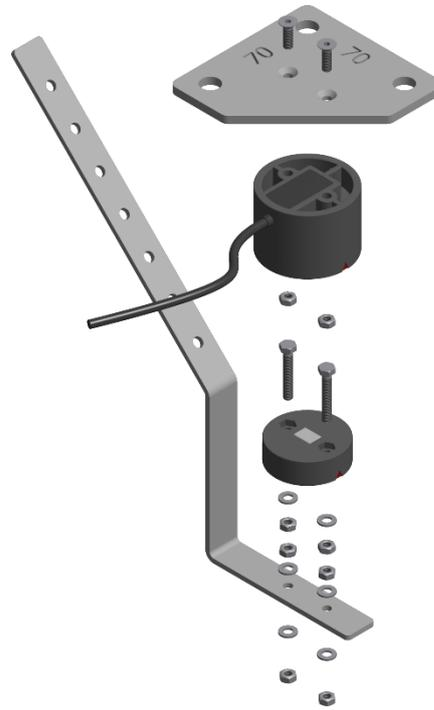
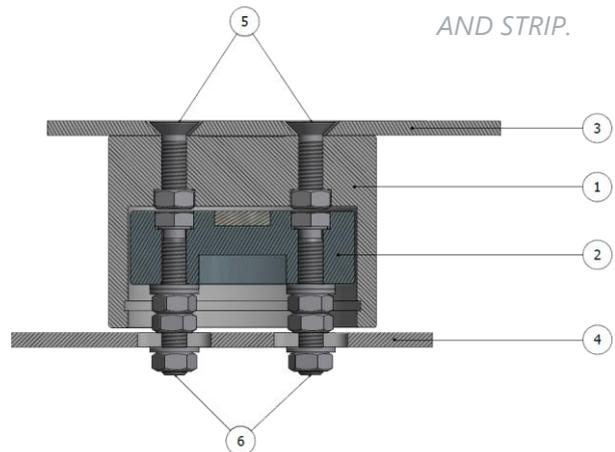

FIGURE 15 SCHEMATIC OVERVIEW OF WHEEL ANGLE SENSOR WITH MOUNTING BRACKET AND STRIP.
FIGURE 16 SCHEMATIC DRAWING OF WHEEL ANGLE SENSOR WHEN MOUNTED.
Figure 15 and Figure 16 show a detailed view of the structure of a wheel angle sensor assembly. Table 1 also lists the components shown in Figure 15.
3. Mount the sensor housing with the M5X16 bolts (allen bolt, countersunk head). Countersink the drill holes in the wheel angle sensor mounting bracket beforehand, so the heads of the M5 bolts are fully countersunk in the mounting bracket when tightened (Figure 16). To prevent damage to the inside of the the sensor housing, make sure the M5 bolts are not too long.